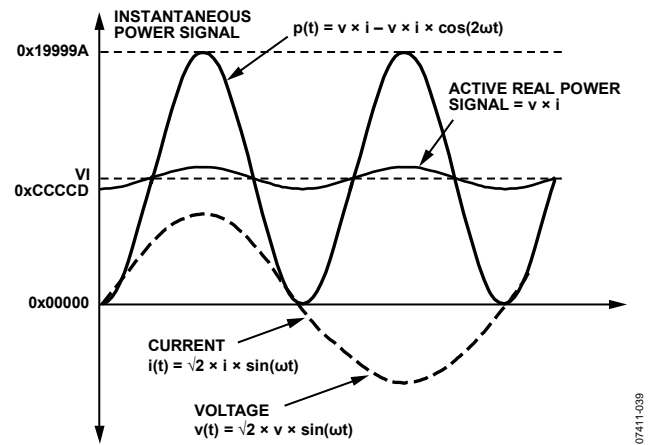

Figure 59. Active Power Calculation
Note that the active power is equal to the dc component of the instantaneous power signal $p(t)$ in Equation 9, that is, VI . This is the relationship used to calculate active power in the ADE5166/ADE5169. The instantaneous power signal $p(t)$ is generated by multiplying the current and voltage signals. The dc component of the instantaneous power signal is then extracted by LPF2 (low-pass filter) to obtain the active power information (see Figure 59).
The ADE5166/ADE5169 also incorporate an active power offset register (WATTOS[15:0], Address 0x20). It is a signed, twos complement, 16-bit register that can be used to remove offsets in the active power calculation (see Figure 59). An offset can exist in the power calculation due to crosstalk between channels on the PCB or in the IC itself. The offset calibration allows the contents of the active power register to be maintained at 0 when no power is being consumed.
As mentioned in the Active Energy Calculation section, the discrete time sample period (T) for the accumulation register is 1.22 μ s (5/MCLK). With full-scale sinusoidal signals on the analog inputs and the WGAIN register (Address 0x1D) set to 0x000, the average word value from each LPF2 is 0xCCCCD (see Figure 59). The maximum positive value that can be stored in the internal 49-bit register is 2^{48} (or 0xFFFF,FFFF,FFFF) before it overflows. The integration time under these conditions when WDIV = 0 is calculated in the following equation: